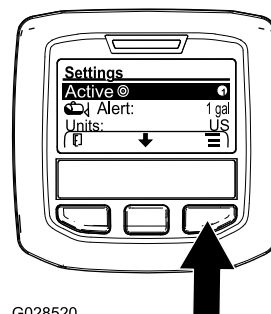

Figure 68
- Press the center selection button to highlight the Active application rate setting (Figure 68).
- Press the right selection button to toggle between application rate 1 and 2 (Figure 68).